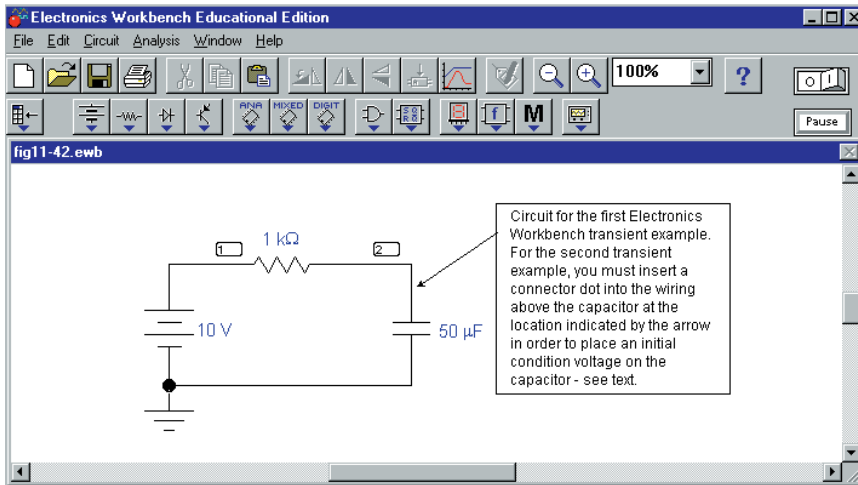

FIGURE 11–42 Electronics Workbench example. The switch is not required since the transient solution is initiated by software.
- Click Simulate. When the analysis is finished, the graph of Figure 11–43(b) should appear. Click the Toggle Grid icon on the Analysis Graphs menu bar. Expand to full screen.